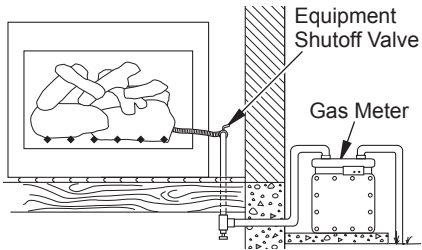
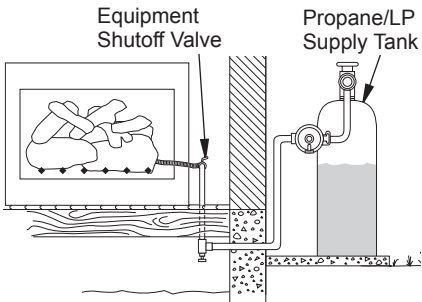

Figure 5 - Checking Gas Joints
Figure 6 - Checking Gas Joints (Propane/LP Gas Only)
3. Check all joints from gas meter for natural gas (see Figure 5, page 5) or propane/LP supply (see Figure 6, page 5) to equipment shutoff valve. Apply noncorrosive leak detection fluid to all joints. Bubbles forming show a leak.